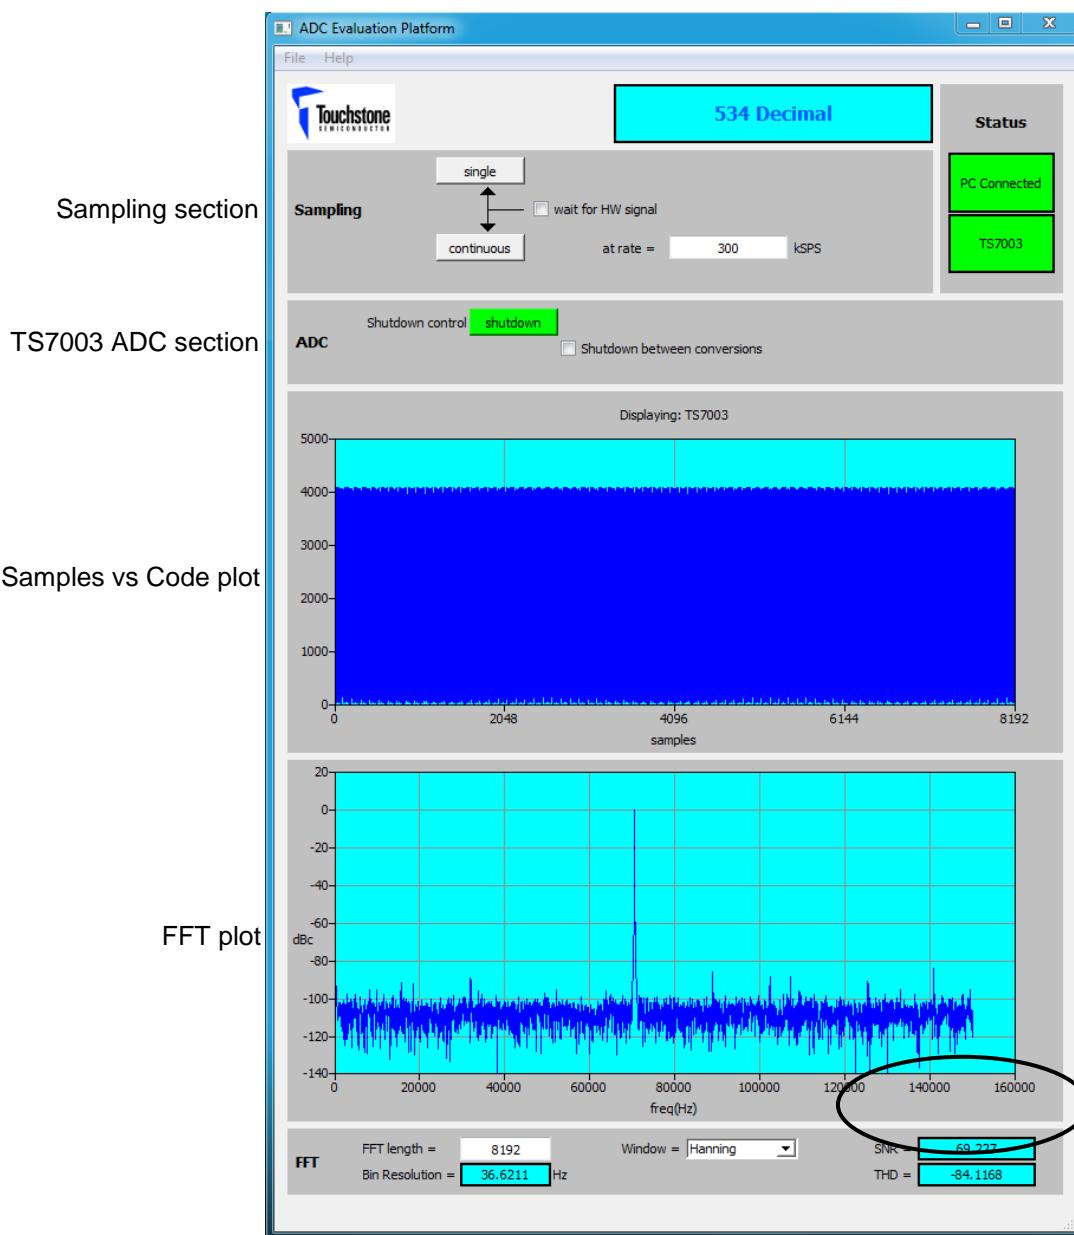

Figure 3. TS7003 Response with GUI
- 5) Turn on the signal generator. On the GUI screen, click on "continuous" in the sampling section, and monitor the results on the screen. The top plot shows a samples vs code plot and the bottom plot is an FFT plot. The SNR and THD values should be approximately 70dB and -80dB, respectively. Please refer to Figure 3 for an example of what the results should look like. In this case, the SNR and THD values are 69dB and -84dB, respectively.
7) A shutdown between conversions function is available by selecting the “Shutdown between conversions” box. Refer to Figure 3. When performing a continuous conversion, press the “shutdown” button and then select the “Shutdown between conversions” box. The samples vs code and the FFT plot will update after every conversion.